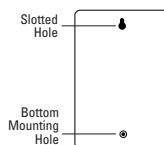

FIGURE 19: Back of Timer Box
- Slip the slotted keyhole in the back of the Controller over the extended upper screw and allow the lower screw to recess into the lower hole in order to prevent the Controller from swinging. [See Fig.19].
- Use a punch to create a hole in the blind Bottom Mounting Hole on the back of the controller box [Figure 19: Bottom Mounting Hole].
- Slip the slotted keyhole in the back of the controller box over the extended screw [Figure 19].
- Push a No. 8 screw (included) through the Bottom Mounting Hole [Figure 19] in the controller box and tighten until the box is held firmly to the wall, but do not over-tighten.